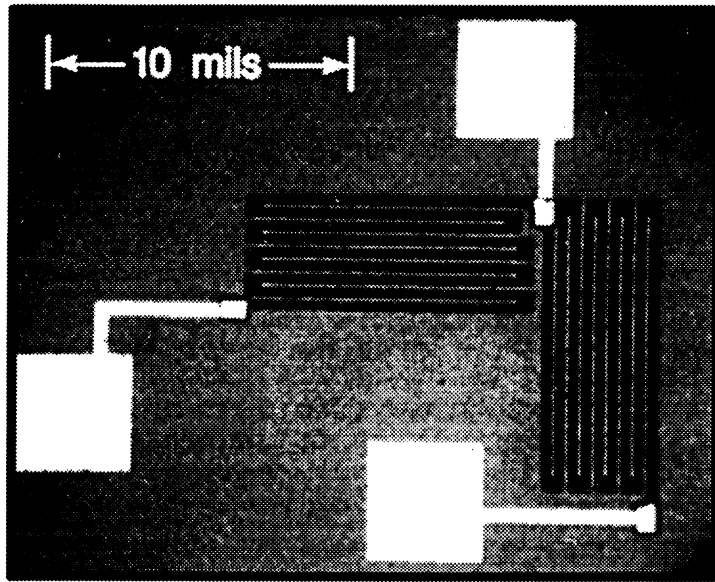

Figure 1. Detail of Diffused Strain Gauge
The diffused strain gauge detailed in Figure 1 is typical. It is formed by an implanted N-type resistor on (100) silicon. Since crystalline silicon is a piezoresistive material, the mobility of charge carriers, and hence the resistance of the diffusion, is modulated by the mechanical stress applied to the crystal lattice. The amplitude and sign of the resistance modulation is a function of the following factors: dopant type and concentration profile, the crystalline orientation of the silicon, and the nature of the stress, either compressive or tensile. For N-type diffusions or implants, positive resistance changes are indicative of compressive stress applied to the chip during the assembly operation. Negative resistance changes indicate tensile stress. The resistance shifts for this gauge are related to the stress in the various crystalline axes by the following equations [11].